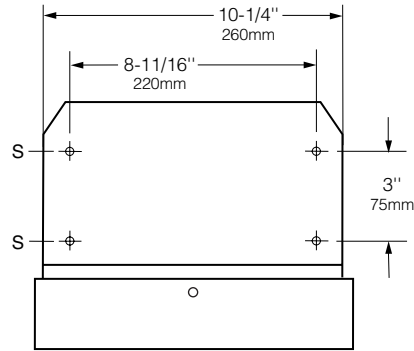

FIGURE 2
2. Use mounting plate as a template to locate holes for mounting screws. See Figure 2.
3. Four (4) #8 x 1-1/4" (4.5x32mm) sheet-metal screws are recommended; however, the surface on which the facial tissue dispenser is to be mounted determines the type of fasteners required for a secure installation.